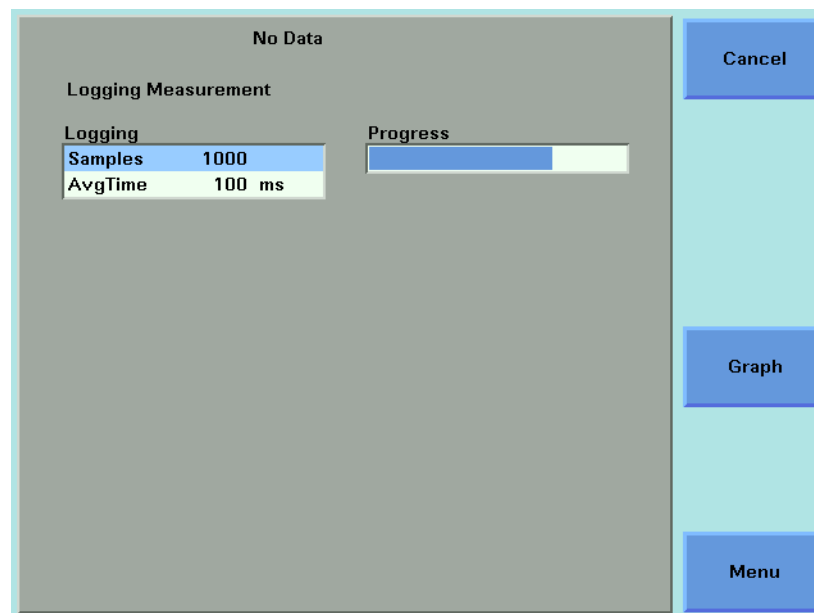

Figure 150 The Logging Measurement Screen - Measurement Running
- 1 You can run the logging application by pressing [Measure]. The Logging Measurement screen, as shown in Figure 150, appears. A progress bar shows the proportion of the logging application that has been completed.